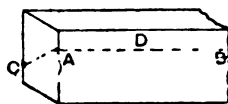
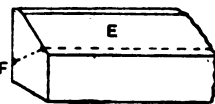

FIG. 1
FIG. 2
**Making French Cork Boot.**—In fitting the second insole of a French cork boot where a box and rand are sewn in, last the boot in the ordinary way, taking care that the leather is nice and even, and that there is a good innersole to work upon. For the box, a piece of first cut is cut the required length, say from 12 in. to 14 in., and about  $\frac{1}{2}$  in. wide. Mark a line, as A B (Fig. 1), on the grain side of the leather,  $\frac{1}{2}$  in. from the edge, and cut it through a little way, then serve the reverse side in a similar manner, as at C. The leather should be damped, and the cut made larger with a channel opener, a welt plough or knife being used to cut a thin strip of grain from
the narrow side as at D. Or the box can be worked with one bevel edge (see E, Fig. 2). Instead of sewing in a welt, the box can be sewn in, and in doing this the awl will go in at A (Fig. 1) and come out at C. The piece taken out at D will admit of the box lying close to the upper, while the channel at C allows the stitch to sink in. If a box like Fig. 2 is used, the awl should go in at the dotted line on the bevel edge E and come out at F. This is also shown by the dotted lines G and H in Fig. 3, which is a transverse section of nearly the whole of the middle portion of the boot. Thus the awl goes in the innersole at J just as for a welt. When the box is sewn in all round, it can be gently hammered down, trimmed, and ironed up, as shown by the dotted line K. The welt, as shown at L (Fig. 3), is sewn in as follows:—Starting at the heel, sew up the waist to where it meets the box. Between these stitches put the awl under each loop, letting it grip the innersole and come out on the top of the box, thus sewing in the welt, and on to this the sole will be stitched as at M, N. A very thin layer of felt is put in, and the remainder filled up with sheet cork, excepting another thin layer of felt to keep the boot from creaking when the outer sole is put on.
**How to Make a Silent Camera Shutter.**—A noiseless shutter that works inside the camera and that will give any length of exposure is made as described below. Being perfectly noiseless, they are particularly suitable when photographing children and animals. Exposures as brief as a quarter of a second may be given, which is generally sufficiently quick for such work. Construct a box A (Fig. 1) of the dimensions shown, dividing it 1 in. from the end with a strip of the same width B, having a slot C. Through this slot and also the holes D and E previously made in the framework a roller F, about  $\frac{1}{2}$  in. in diameter, is passed (a wooden knitting-needle answers well). In this roller burn two holes 3 in. apart, and into them fix the wire frame shown in Fig. 2 so that it hangs flat. Now cover rod and frame with thin velvet, gluing to the rod and sewing over the frame. Make a frame  $\frac{1}{2}$  in. wide and  $1\frac{1}{2}$  in. deep to fit the left-hand compartment, as shown by dotted lines. This frame is afterwards covered on its inner edge with velvet, making a lighttight join. Around the roller F glue one end of a strip of tape, 2 in. long, and wind the remainder around free, joining the loose end to a strip of wood G, about 3 in. long. G is hinged to the bottom with a small piece of tape also. Next wind some